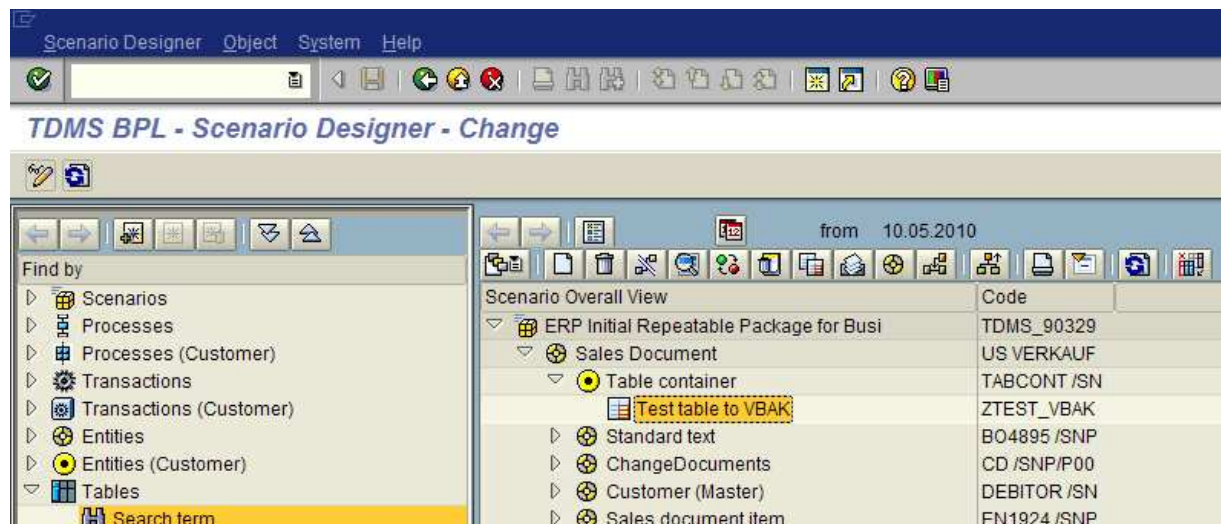

Figure 20: Customer table ZTEST_VBAK is assigned to a customer entity. Double-clicking the table important information about the table is displayed in a popup.
- Before creating a table relationship you can get important information about a single table by double-clicking it in overview area. See Figure 20 as an example. Customer table ZTEST_VBAK has been assigned to a customer entity. Double-clicking the table, a popup opens that provides important information about this table such as delivery class, table type, and copy control settings (see Figure 21). Furthermore, there is an *information* icon  in the popup. Clicking this icon you get further information about table and index sizes, primary keys and fields with an index access (see Figure 22). Via the button *Show table fields* the table fields with additional information are listed (see Figure 23).